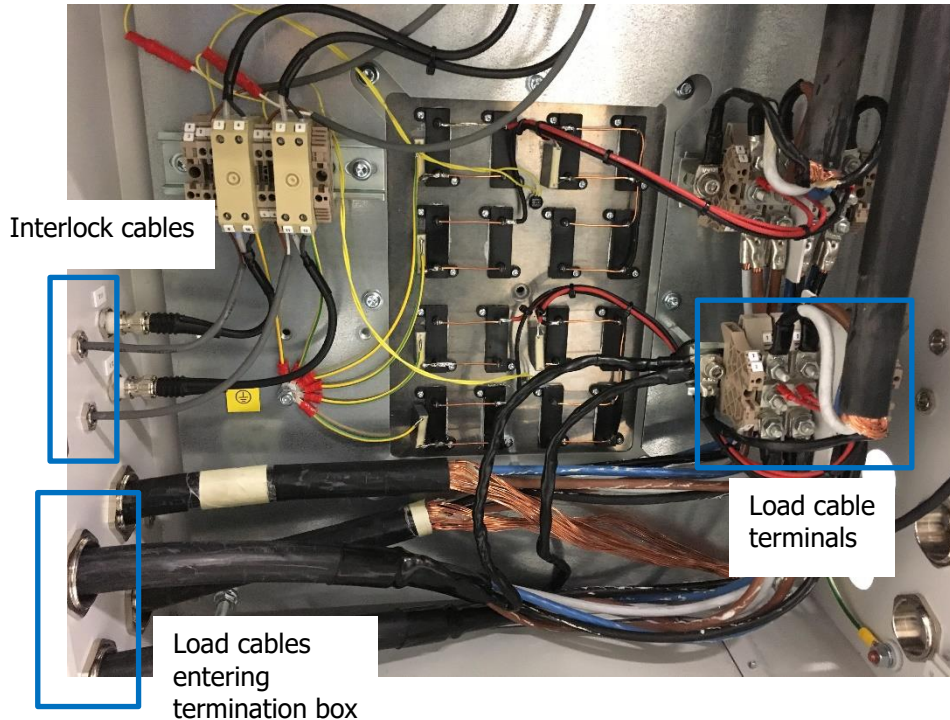

Figure 4: Inside view of the termination filter box
- Connect load cable between output converter and termination filter according to schematic 8200093700. See also Figure 4.
- Connect cable between termination filter and magnet terminal connection block according to schematic 8200093700. See also Figure 4.